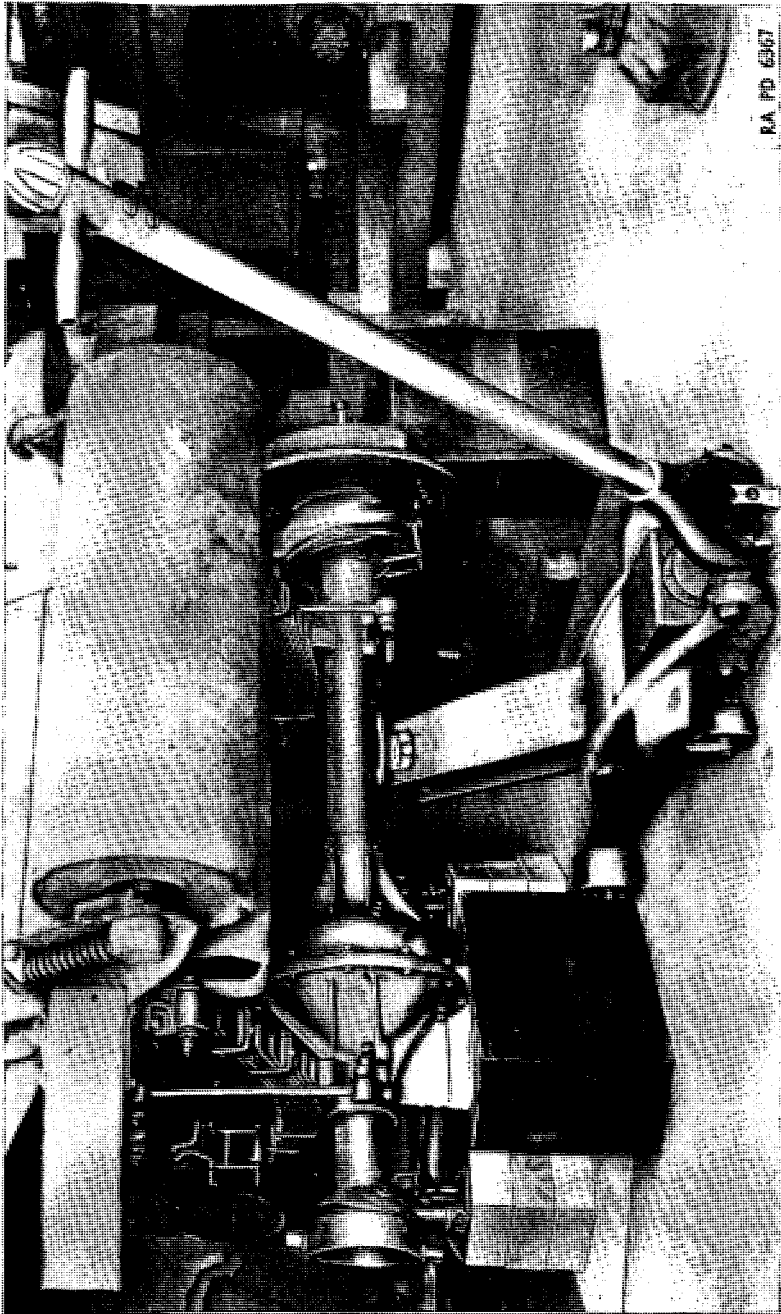

FIGURE 42.—Front axle installation.
(1) Replace ends— $1\frac{5}{16}$ -inch socket wrench, $\frac{7}{8}$ -inch open end wrench. Thread left- and right-hand ends onto cross tube. Replace clamp bolts, nuts, and lock washers, and draw up snug until vehicle is tested for "toe-in," after which they should be tightened down.
(2) Replace end stud assembly—screw driver, pliers. Insert stud seat, pin, retainer, stud, spring, and plug into bottom of tube ends, and lock these in position with locking ring.
(3) Install dust shields and top spring. Insert washer, dust seals, and outer spring over stud.
(4) Attach tie-rod assembly to axle—pliers, $1\frac{1}{16}$ -inch socket wrench. Install the tie-rod assembly on the axle and lock in position with nut and cotter pin.
b. Position axle to chassis—jack. Place axle under chassis in its approximate running position. Raise axle and make sure spring center bolt heads enter holes in axle spring seats (fig. 42).